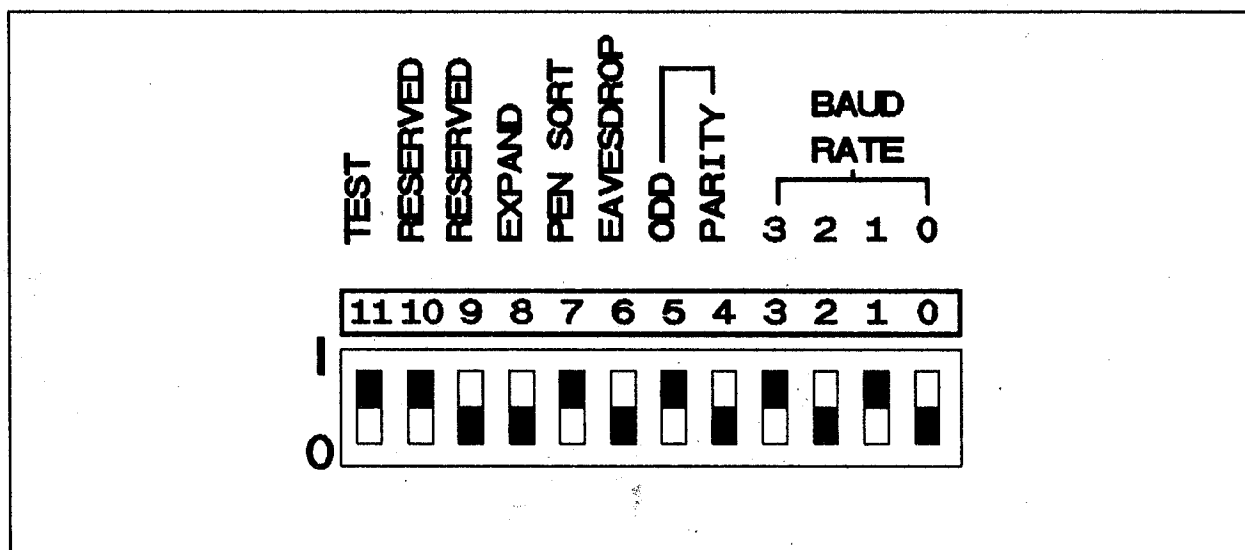

Figure 8-6. I/O Test Switches
- d. Set the rear panel TEST switch (11) and the RESERVED switch (10) to the I (on) position. See Figure 8-6.